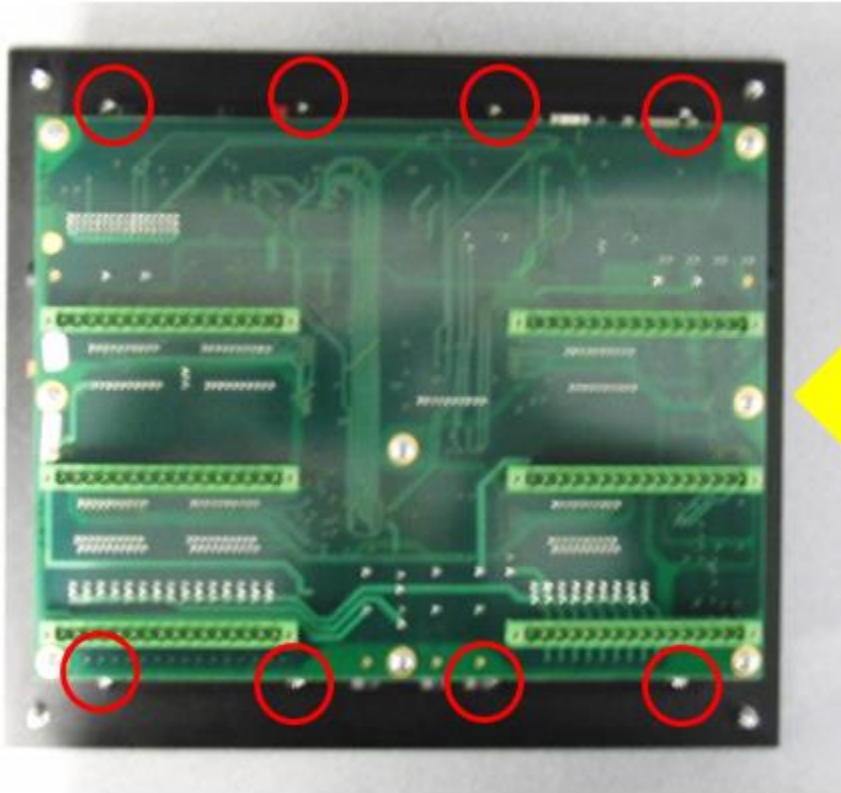
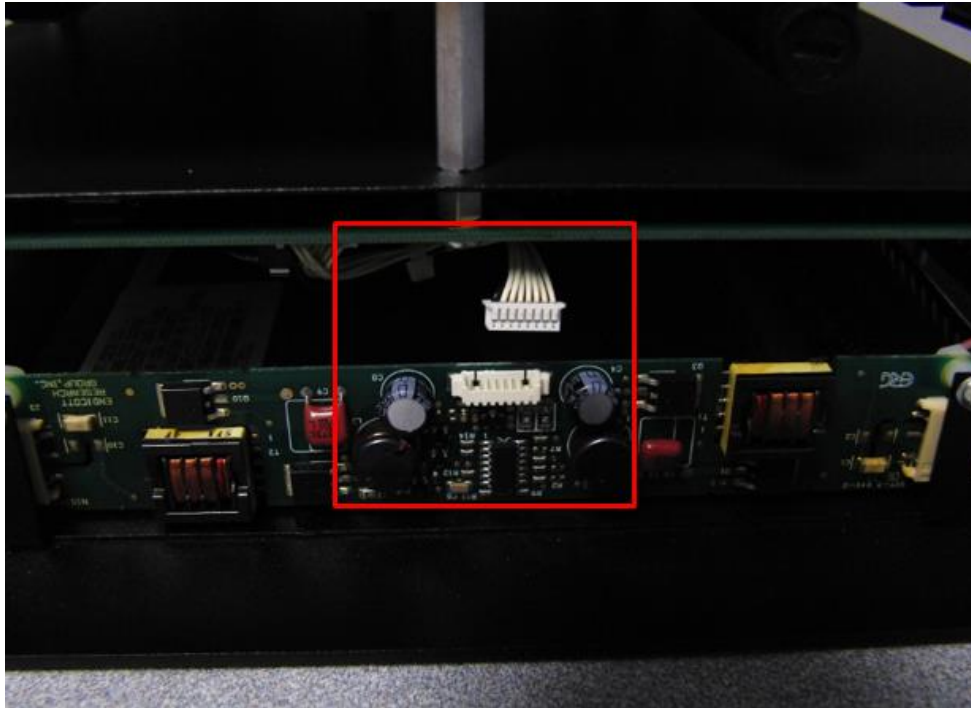

Figure 6 - XL200 with back cover removed
Figure 7 - White connector removed
5. Remove the 8 nuts circled in red in Figure 6.
6. Lift the circuit boards slowly from the right side as shown in Figure 6. While lifting, remove the strand of wires from the front panel. This is done by pulling the white connector straight up off of the front panel as shown in Figure 7. After lifting the boards slightly more, remove the white ribbon from the front panel. This is done by pulling the black connector straight up off of the front panel as shown in Figure 8.